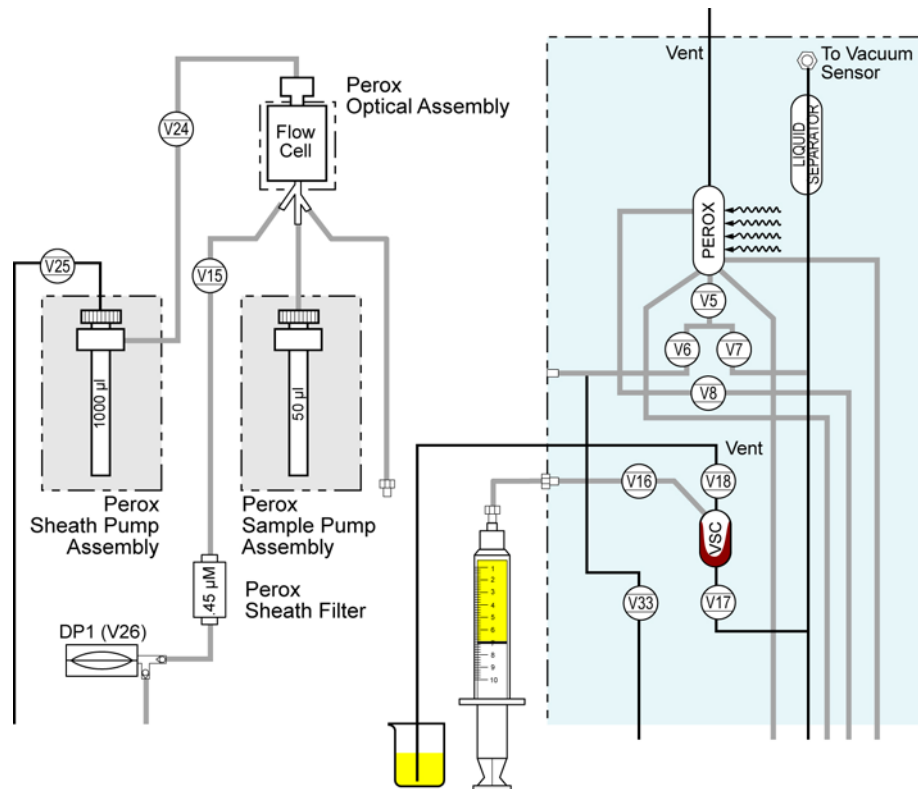

Figure 10. Syringe and beaker line connected to the Perox VSC V16 and V18 ports
5. Leave the Perox VSC to soak for several minutes with EZ Wash inside, then push and pull on the syringe plunger again. See **Figure 10**.